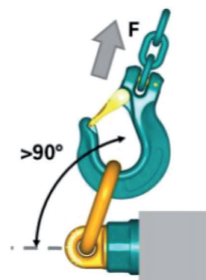
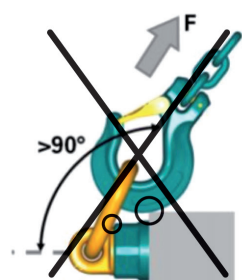

Fig. 3: permitted
Fig. 4: not permitted
- With an attachment angle > 90° (see Fig. 3), the suspension element or the end attachment inserted in the ring must not support itself on either the load or the swivel body (see Fig. 4).